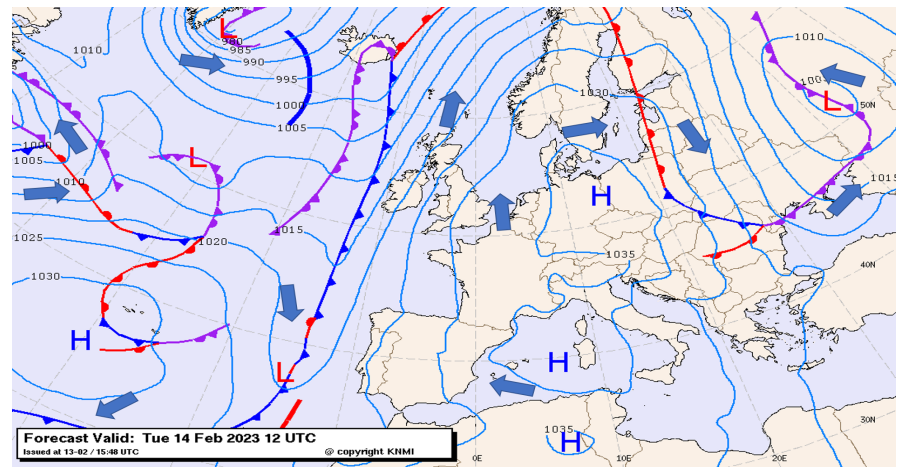

Fig. 8.4.2
** isobars show the position of pressure areas. Because the wind follows the isobars – albeit at a small angle – they also provide information about wind direction (see Fig. 8.4.2).*